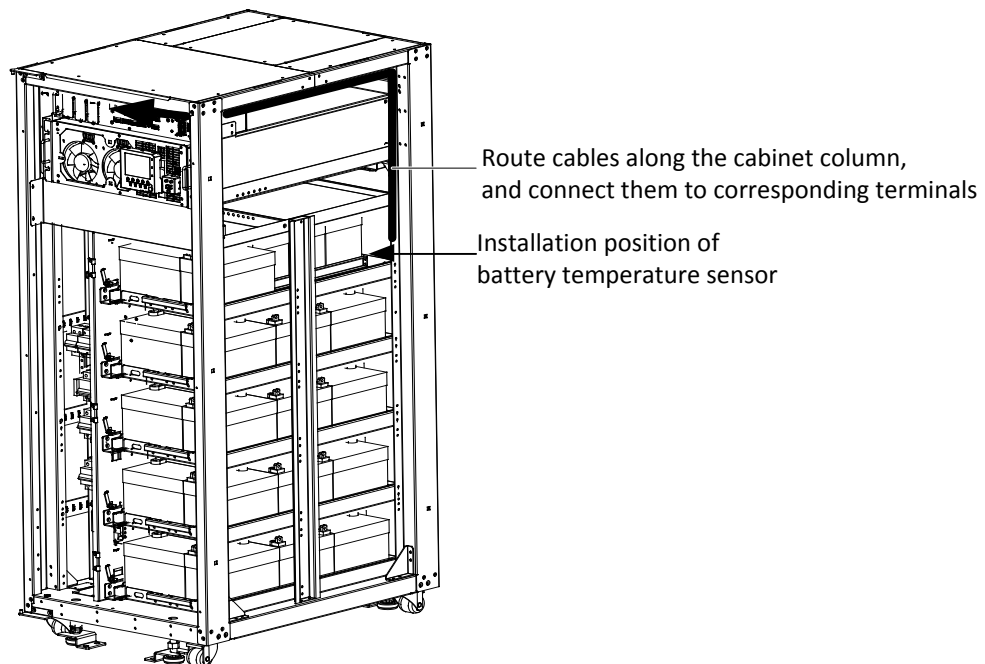

Figure 8-14 Installation and connection of battery temperature sensor
4. Remove the right side panel of the cabinet, place the battery temperature sensor onto the back area of the battery tray 1, and then insert the UF-RS485 card into the Intellislot port 1. The installation method of the UF-RS485 card is the same as that of the IS-WEBL card described in 8.2.6 *IS-WEBL card*. Refer to Figure 8-14 for installation and connection of the battery temperature sensor.